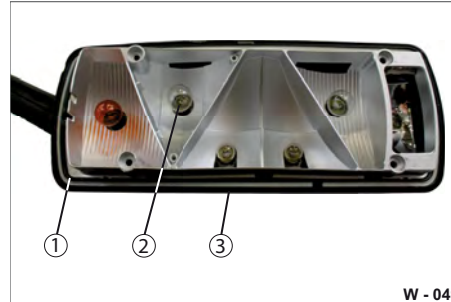

Fig. 52 Tail light open
- ▶ Set the outer light lens close to the housing (Fig. 52/3).
- ▶ Ensure that the seal is correctly seated (Fig. 52/1). Replace damaged/ripped seals.